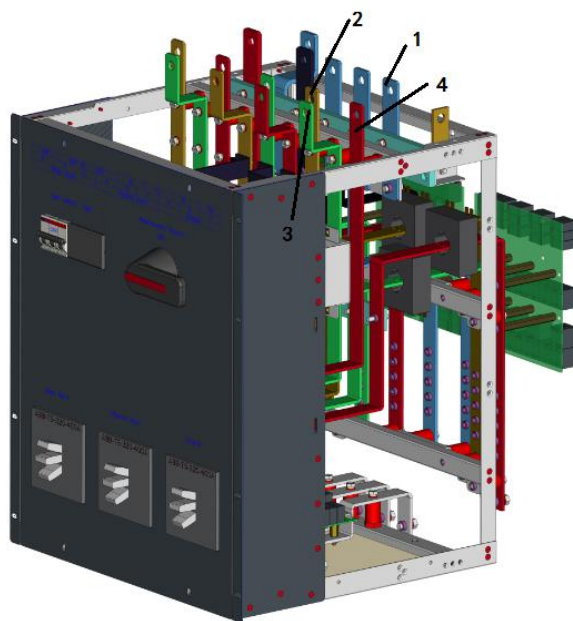
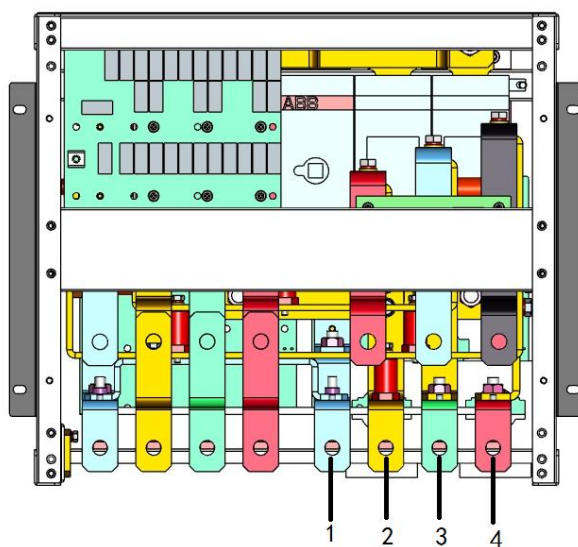
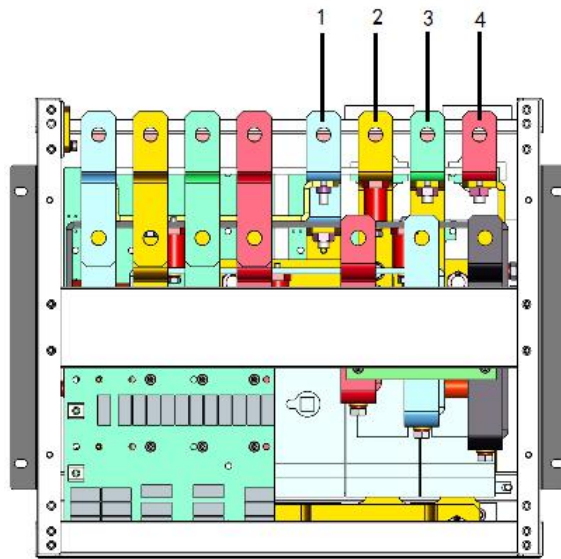
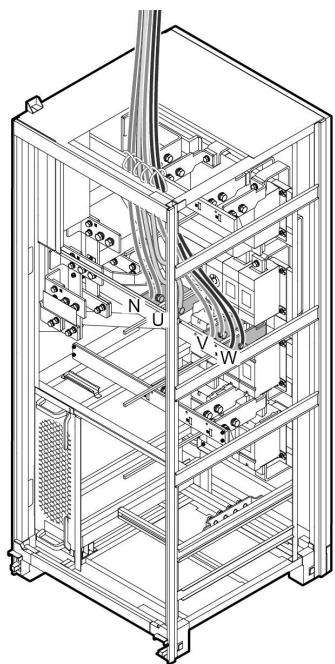

Fig. 2-38 Connection of AC output cable (200kVA)
Fig. 2-39 Connection of AC output cable (bottom incoming, 300kVA)
Fig. 2-40 Connection of AC output cable (top incoming, 300kVA)
Fig. 2-41 Connection of AC output cable (500kVA)
Orderly connect the output cable with the wiring terminal N and A (U), B (V) and C (W) of the output, s shown in Fig. 2-38, Fig. 2-39, Fig. 2-40 and Fig. 2-41.